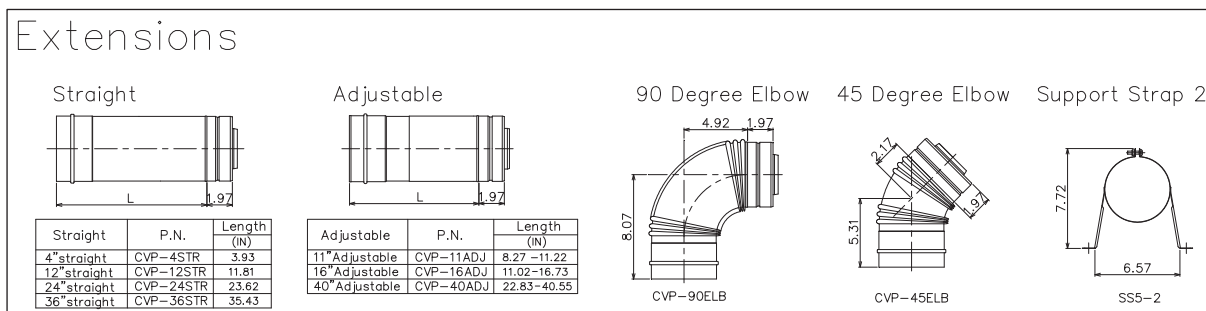
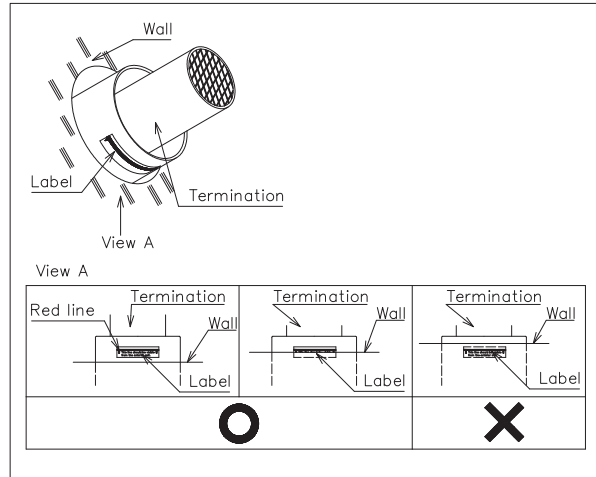

Fig 1 Dimensions of items (Concentric)
Fig 3 Position of the label with red line
When the termination is attached to the wall using “Extensions Series” in order to extend the vent system, use Horizontal extended installation in diagram below. (See Fig 1) Parts sold separately.
1. Check the location of appliance and the path for the vent system. Calculate the required number and combination of items above. (See Fig 1)
3. Check wall thickness where the vent system passes through, and select suitable parts according to Fig 1. In the case with thicker wall, insert CVP-4STR (Straight), CVP-11ADJ (adjustable) or CVP-16ADJ (adjustable) between CVT-S and CWF-F. When using Adjustable, open the hole with 1/8" diameter and fasten them by appropriate screw (ex. metal screw pan head #8-1/4). Adjust the length of the combination of the parts so that the end of the air intake part of CVT-S (termination) protrudes more than about 0.8" from the wall. Make sure the label with red line on the air intake of CVT-S (termination) should be downward, so that the red line of the label can be seen from the exterior wall. (See Fig 3)